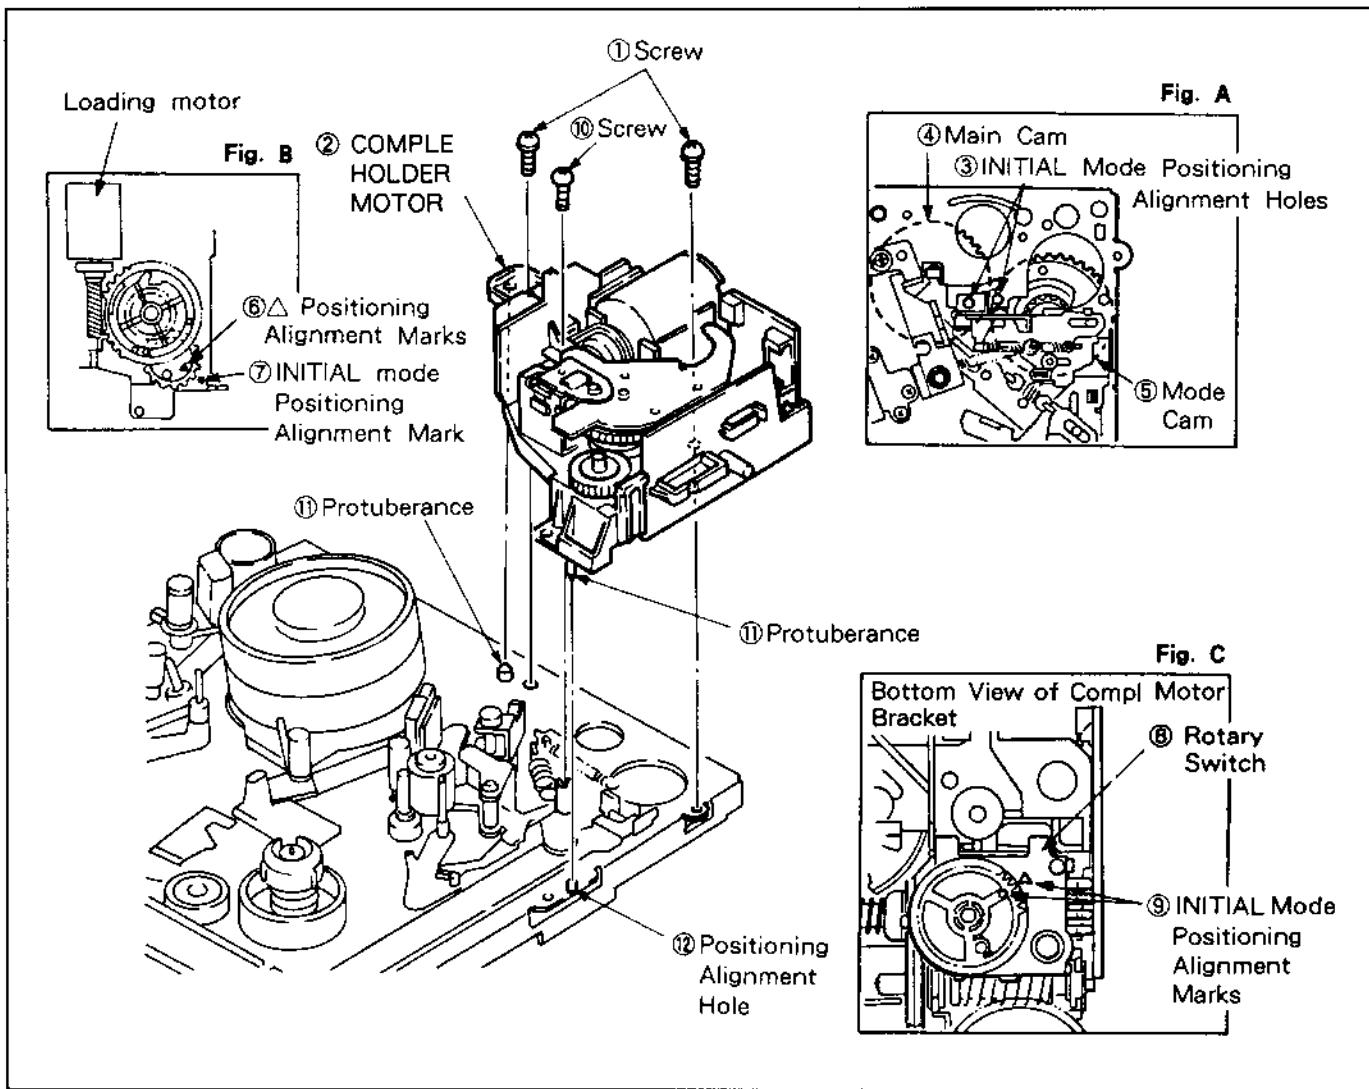

Fig. 2-3-1. Compl Holder Motor
- 3) Remove the two screws ① and the other one ⑩, then remove the COMPL HOLDER MOTOR ②. (See Fig. 2-3-1.)
- 1) Set the mechanism chassis to the INITIAL mode. In this mode, look at the mechanism chassis INITIAL mode positioning alignment holes ③ just from above and align the MAIN CAM ④ and MODE CAM ⑤ INITIAL mode positioning alignment holes as shown in Fig. A.
- 2) Set the COMPL HOLDER MOTOR ② to the INITIAL mode with the mode selector (VHJ-0050). In this position, the FRONT LOADING GEAR △ positioning alignment mark ⑥ is aligned with the MOTOR HOLDER INITIAL mode positioning alignment mark ⑦. (See Fig. B.)
- 3) Align the ROTARY SWITCH (mode detector switch) ⑧ with the INITIAL mode positioning alignment mark ⑨. (See Fig. C.)
- 4) Line up COMPL HOLDER MOTOR ② with PROTUBERANCE ⑪ and POSITIONING ALIGNMENT HOLE ⑫, and attach with two screws ① and one screw ⑩. (Refer to Fig. 2-3-1.)
**Note:** Normal mechanism operation cannot be achieved if INITIAL mode positioning of the MAIN CAM ④, the MODE CAM ⑤ and the ROTARY SWITCH (mode detector switch) ⑧ are not performed precisely.